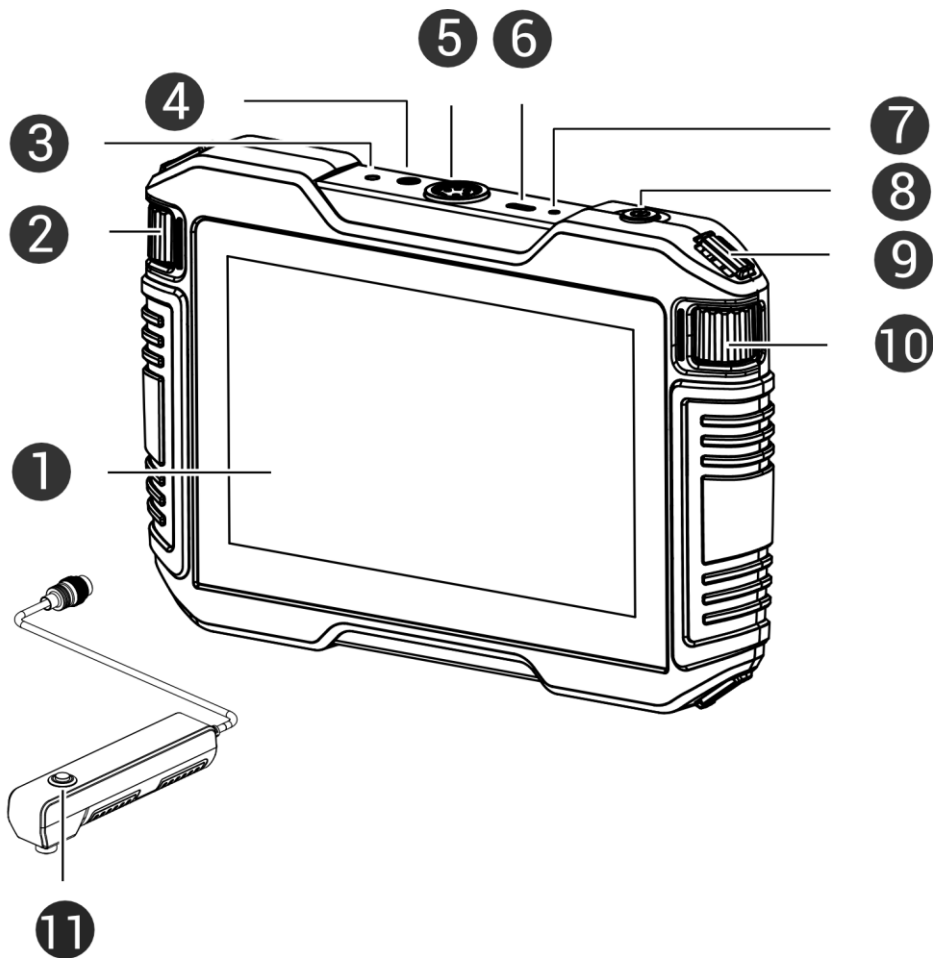

Figure 1-1 Device Main Body and Handle Grip
2. Adjust the frequency range by the scrolling the frequency wheel (No.10 in Figure 1-1)